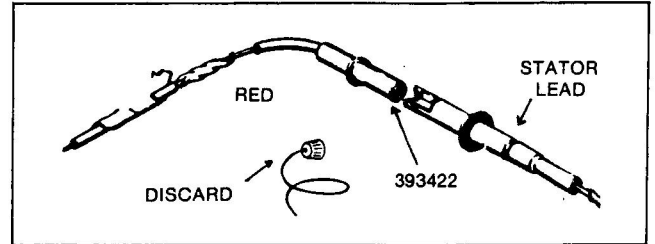

Fig. 9
7. Cut off equipment wiring harness DC charging connector and discard. Fig. 9. Strip end of wire just cut for splice. Cut off 393422 connector assembly wire to required length. Strip end of wire and splice to first wire. Solder splice and wrap with electrical tape.